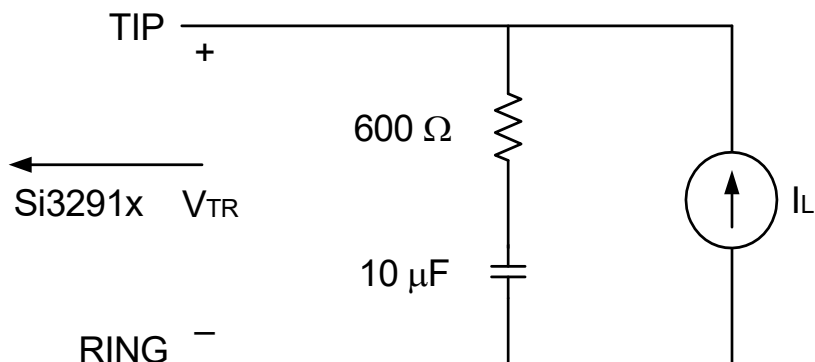

Figure 1. Test Circuit for Loop Characteristics
1. Measured at TIP and RING with 600 Ω termination at 1 kHz, as shown in Figure 1 on page 12.
For Figures 1–5, all filter plots apply to a sample rate of